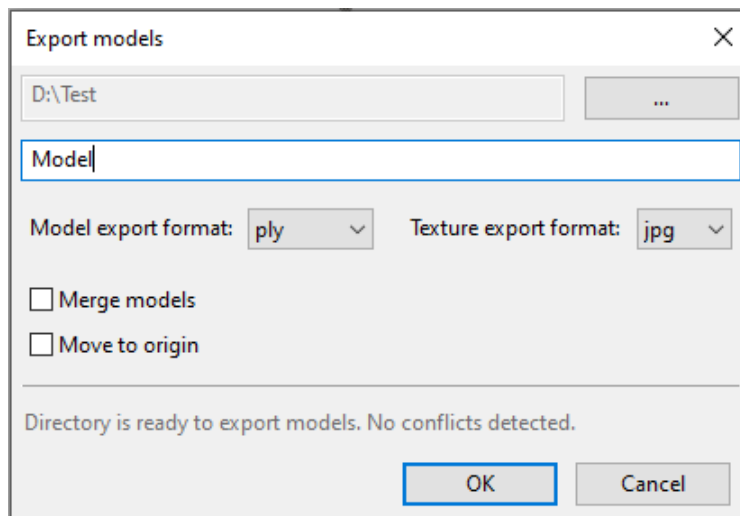

Figure 95: Dialog for exporting meshes.
2. Right click and select the *Export* → *Meshes* option, or select the *File* → *Export* → *Meshes* command. A dialog window will appear (Figure 95).